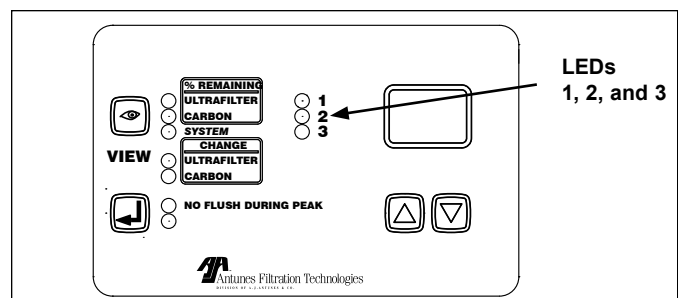

Figure 15. TAP System Control Panel
2. Press the **VIEW** button to scroll through the green LEDs (Figure 15) that indicate the following data: